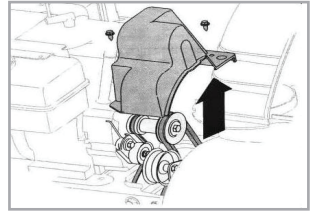

Fig.25
5. Remove the belt from around the auger pulley, and slip the belt between the support bracket and the auger pulley. Reassemble auger belt by following instructions in reverse order. See Figure 25.